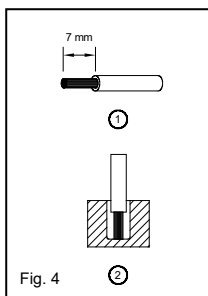

Fig. 4
(1)	0.82-5.3	18-10	0.44	3.9
(2)	3.3-5.3	12-10	0.44	3.9
To secure reliable and shock proof connections, the stripping length should be 7 mm (see Fig. 4 (1)).
Please ensure that wires are fully inserted into the connecting terminals as shown in Fig. 4 (2).